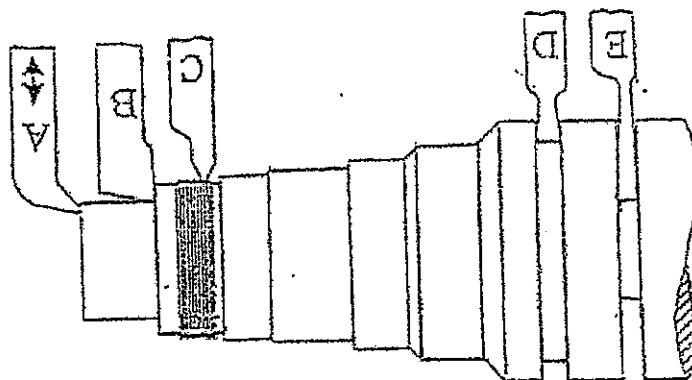

FIGURE 3
- 11.2 FIGURE 3 indicates certain centre lathe cutting tools. Write the letters underneath each other in the ANSWER BOOK and name the cutting tool next to the letter. (5)